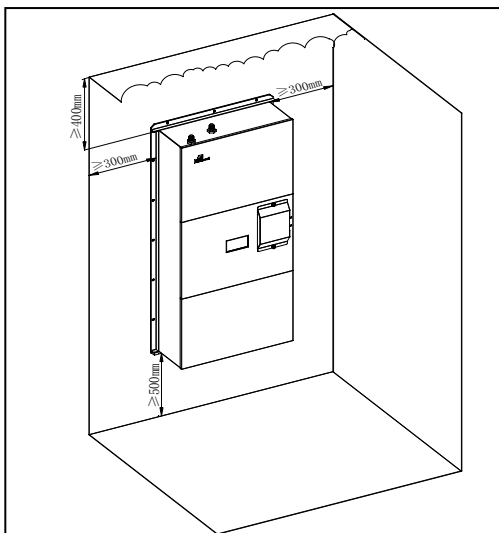

Figure 2.1.4.2 Recommended distance between chiller room and obstacle and necessary maintenance space (unit: mm)
3. Opening of wall. ①The opening of the external circulation air return port should be larger than the outdoor circulation air return port of the water chiller (418×334 mm); ②The opening of the external circulation air outlet shall be larger than that of the water chiller (194×194 mm); ③For other installation requirements, the wall needs to be pre-configured with water chiller installation fixing nuts, etc. The specifications and location are shown in Figure 2.1.4.3.